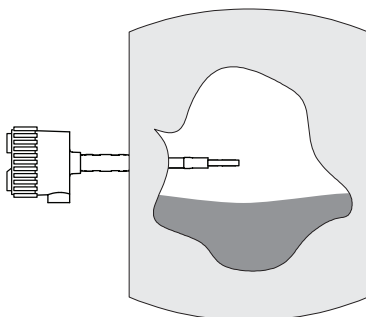
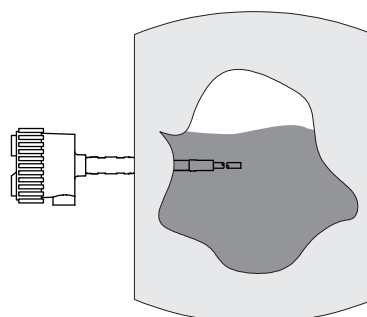
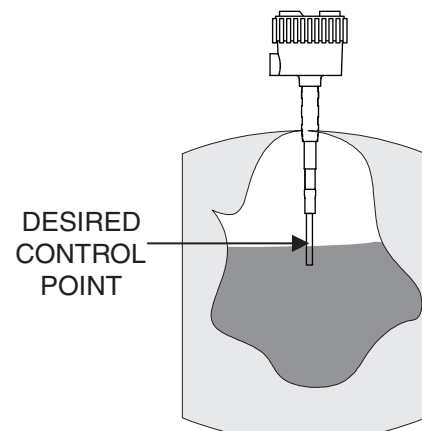

Figure 4-1
Figure 4-2
Figure 4-3
- a) Be sure the material level is well below the sensing element. See Figure 4-1.
- c) Turn setpoint adjustment slowly clockwise (CW) until the relay just operates. (red LED off).
- d) Increase the material level until it is well above the sensing element. See Figure 4-2. (LED changes state).
- f) Counting the number of turns, turn the setpoint adjustment slowly clockwise (CW) until the relay once again just operates.
- 1) Be sure the material level is well below the sensing element. See Figure 4-1.
- 3) Turn setpoint adjustment slowly clockwise (CW) until the relay just operates. (red LED off).
- 4) Raise the level to a point on the active section of the sensing element where control is desired. Red LED should be on. See Figure 4-3.
- 5) Counting the number of turns, turn the setpoint adjustment clockwise (CW) until the red LED just turns off.